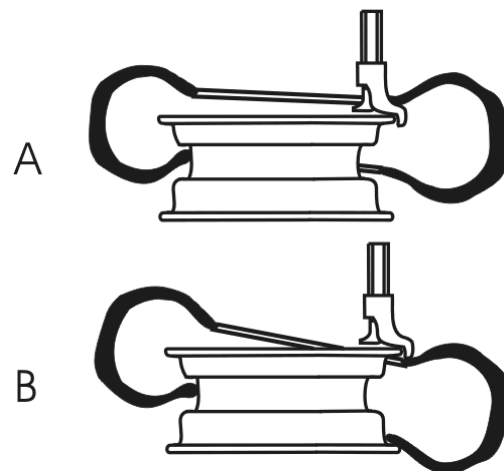

Fig. 24
- Depress the tyre and press the pedal D to make the working plate clockwise rotation until the under bead into the rim(Fig. 24-A)